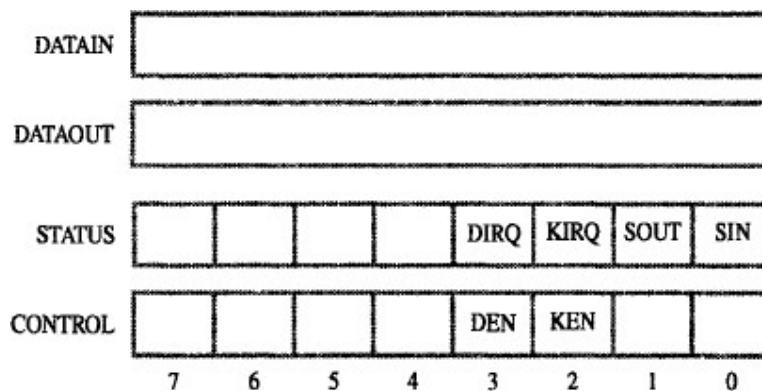

Figure 4.3 Registers in keyboard and display interfaces.
- IRQ=1 →when a device raises an interrupt-requests (Figure 4.3).